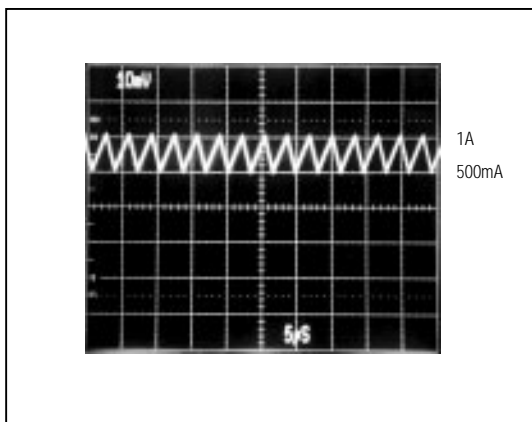

Figure 4a. CCM, Heavy Load Current Waveform (500mA/div)
The MAX761/MAX762 also limit the peak inductor current, allowing the devices to run in continuous-conduction mode (CCM) and maintain high efficiency with heavy loads (Figure 4a). This current-limiting feature is a key component of the control circuitry. Once turned on, the switch stays on until either (1) the maximum on-time one-shot turns it off ($8\mu s$ later), or (2) the current limit is reached.